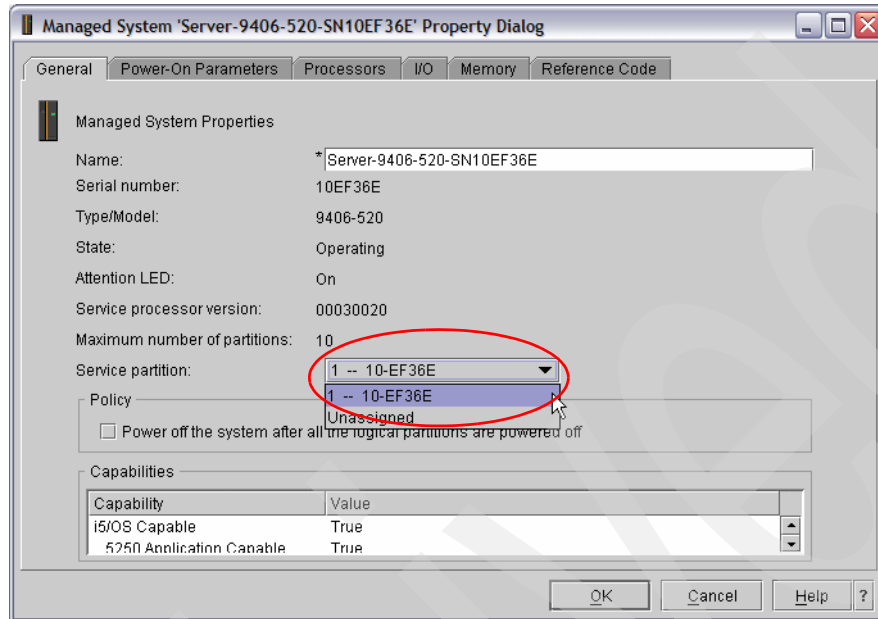

Figure 14-30 Set i5/OS service partition
- The Managed System Server Property Dialog window is shown (Figure 14-30). You can select any i5/OS partition to be the service partition, although it must be in an inactive state to be added or removed. Also, only one i5/OS partition can be the service partition at any given time.